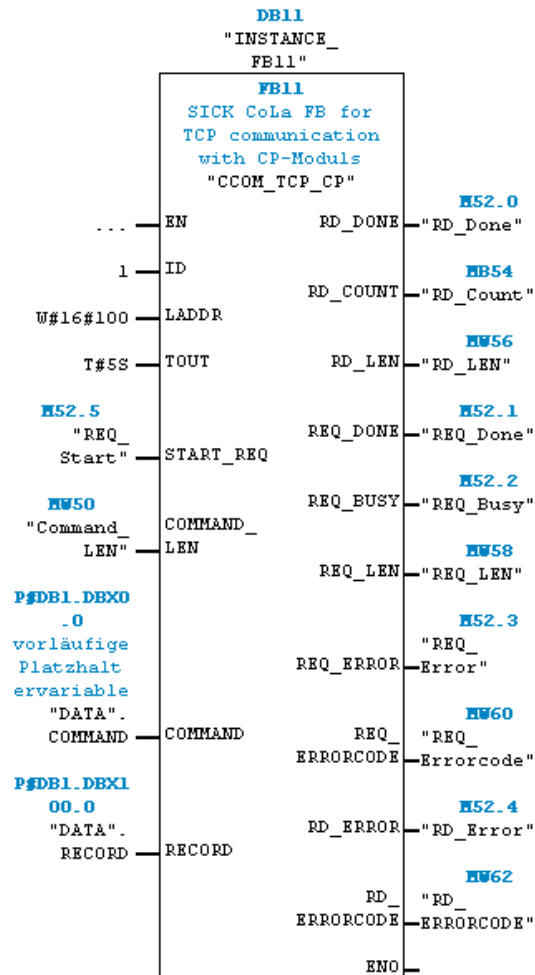

Figure 9: Example of a connected CCOM\_TCP\_CP function block
Figure 9 shows an example of a connected CCOM\_TCP\_CP function block. The TCP connection to the SICK sensor has been configured in advance using NetPro and the (ID) and (LADDR) connection parameters transferred to the function block.